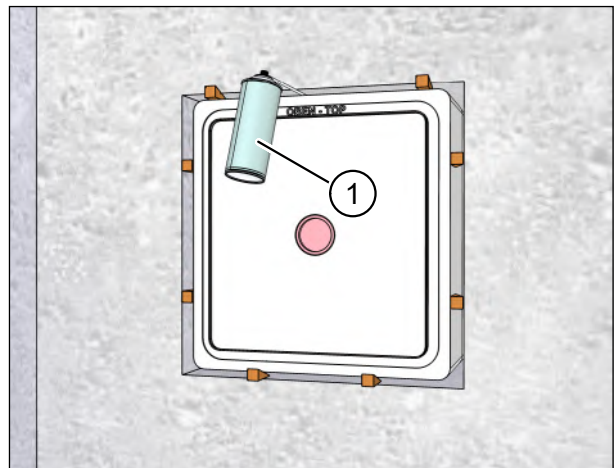

Fig. 17: Filling gaps around the wall box with foam
- ▶ Fill the gaps between the wall box and wall breakthrough all around and continuously with expanding foam (item 1 in Fig. 17) or using another suitable filling material.